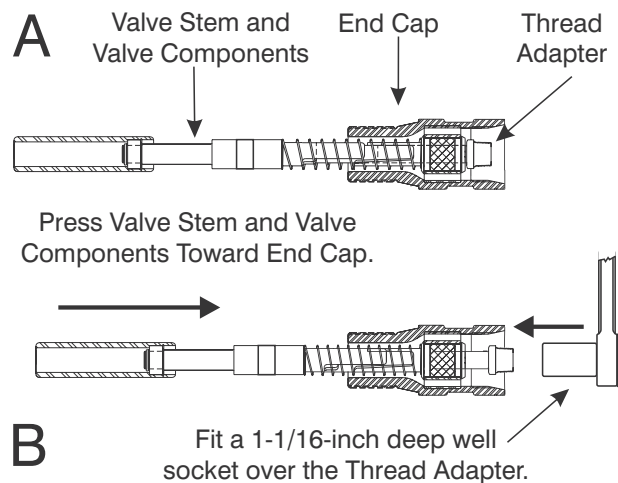

Figure 8-24. Press Valve Stem into Position
1. Secure the End Cap (8) as described in step 1 of Section 8.9.1.
2. By hand, press the Valve end of the Valve Stem (5) toward the End Cap until the Thread Adapter (3) on the end of the Stem is accessible. See Figure 8-24.
3. Fit a 1-1/16-inch deep well socket over the Thread Adapter (3) to hold the adapter in place. Refer to Figure 8-24.